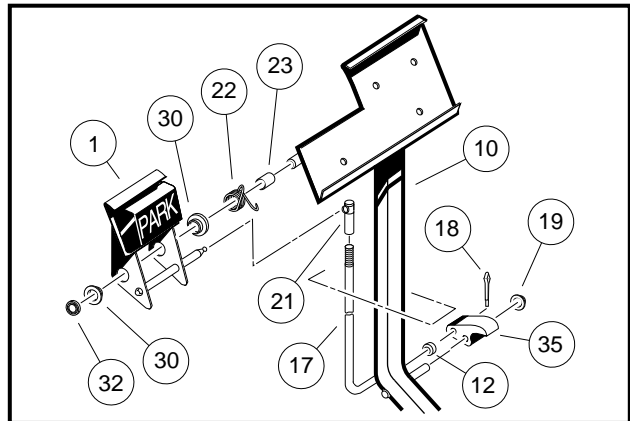
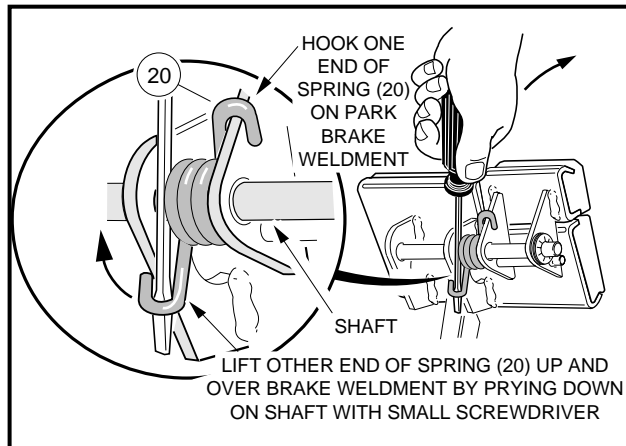

Figure 5-4 Park Brake Assembly
Figure 5-5 Attach Torsion Spring
NOTE: New push-on nuts (19) and (32) (**Figure 5-4, Page 5-4**) must be used when reassembling park brake.
- 3.2. To remove the park brake pedal (1), remove the push-on retainer nut (32), disconnect the torsion spring (22) (**Figure 5-4, Page 5-4**) and slide the pedal off of the shaft. **See preceding NOTE.**
1. From the bottom side of the floorboard, insert park brake rod (17) through brake pedal assembly opening as shown (**Figure 5-4, Page 5-4**). Then install park brake pawl (35) onto shaft on brake pedal assembly weldment (10) (**Figure 5-4, Page 5-4**).
2. Install the spacer (23) and torsion spring (22) on the park brake pedal shaft on the brake pedal weldment (**Figure 5-4, Page 5-4**).
3. Install the bushings (30) in the park brake pedal and position the park brake pedal on the shaft on the brake pedal assembly weldment (10) (Figure 5-4, Page 5-4). Then attach the ends of the torsion spring to the park brake pedal and to the brake pedal weldment as shown (Figure 5-5, Page 5-5).
4. Install the push nut (32) on the park brake pedal shaft (Figure 5-4, Page 5-4).
5. Connect park brake rod (17) with ball joint (21) to the ball stud on the park brake pedal assembly (Figure 5-4, Page 5-4).